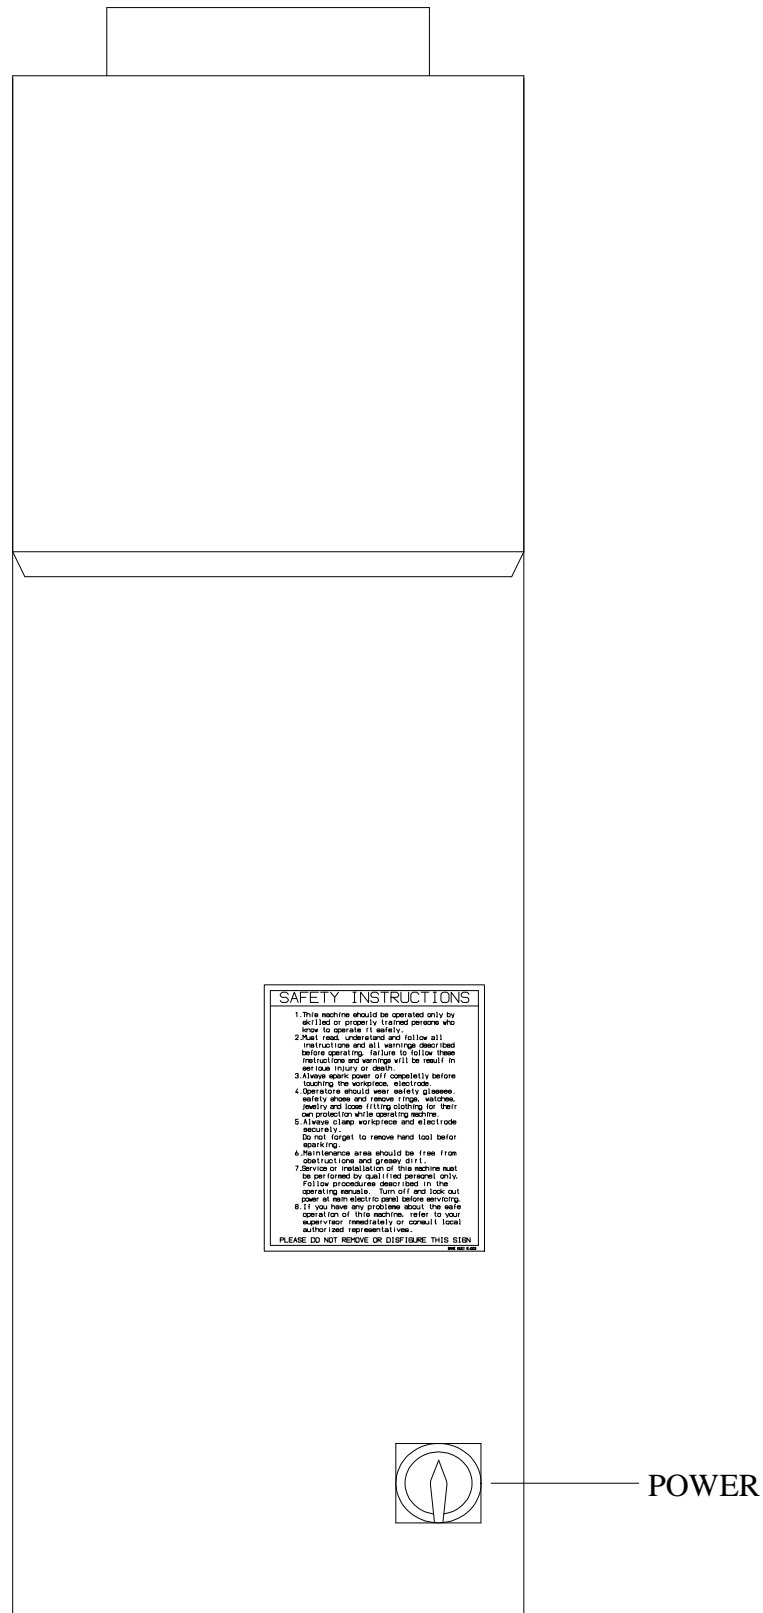

FIG. 4-4
7. TURN ON THE POWER SUPPLY SWITCH. (FIG. 4-4) AND PRESS THE INLET KEY OF CONTROL PANEL THEN DIELECTRIC FLUID PUMP STARTS WORKING.